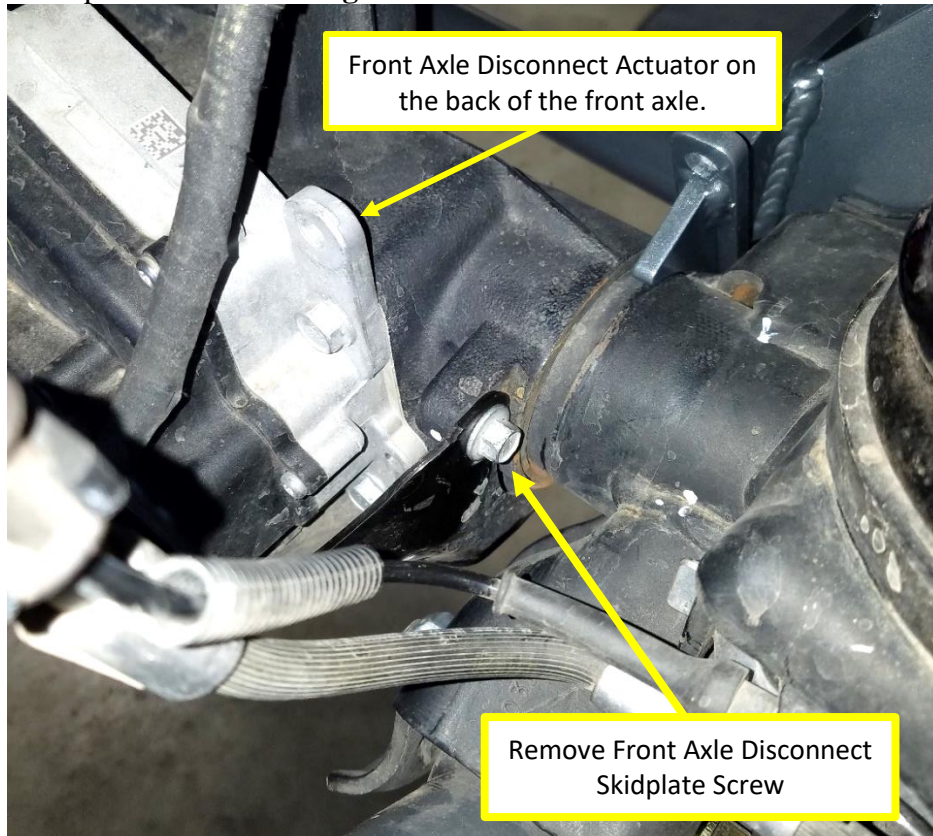

Figure 6. Temporarily Remove the Front Axle Disconnect Skidplate Screw
6. Use a 10mm wrench or socket and remove the screw on the passengers side of the Front Axle Disconnect skid plate as shown in **Figure 6**.